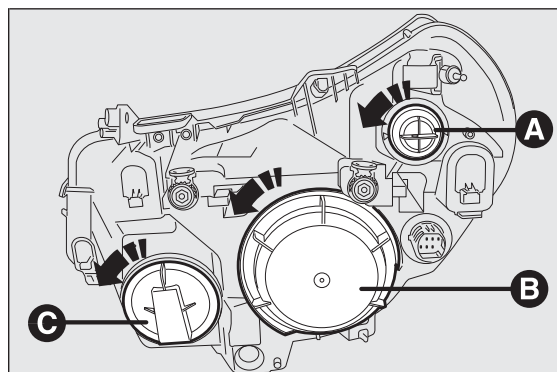

fig. 189
To replace a bulb of the main beam headlights/daytime running lights, remove cap C fig. 189.
To replace a bulb of the dipped headlights/side lights, remove cap B fig. 189.
To replace the direction indicator bulb, remove bulb holder A fig. 189.
- ☐ remove protective cover B fig. 189, rotating anticlockwise;
- ☐ refit the protective cover B fig. 189, turning it clockwise and making sure that it locks correctly.
- ☐ remove protective cover C fig. 189, rotating it anticlockwise;
- ☐ refit the protective cover C fig. 189, turning it clockwise and making sure that it locks correctly.
- ☐ remove protective cover B fig. 189, rotating it anticlockwise;